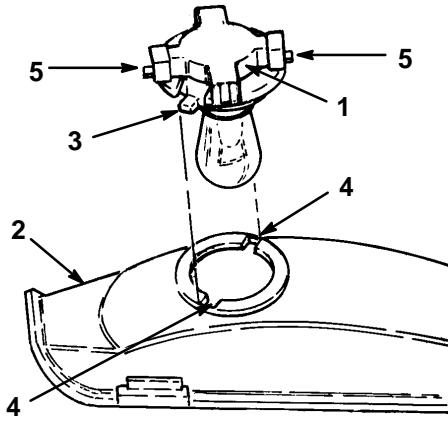

Figure 19
3. Rotate the bulb holder 1/4 turn counterclockwise and remove it from the reflector (Fig. 19).
2. The bulb holder has two tabs (Fig. 19). Align the tabs with the slots in the reflector, insert the bulb holder into the reflector and rotate it 1/4 turn clockwise until it stops.